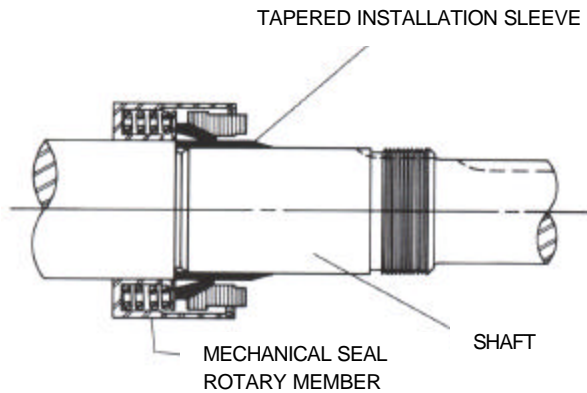

FIGURE 13
6. Place tapered installation sleeve (furnished with H, HL, K, KK, L, LQ and LL size replacement mechanical seals) on shaft. Refer to Figure 13. Coat inner diameter of seal rotary member, tapered installation sleeve and the shaft with a generous quantity of non-detergent SAE 30 weight oil. Place rotary member on shaft over sleeve and against hub of rotor. Refer to Figure 14.